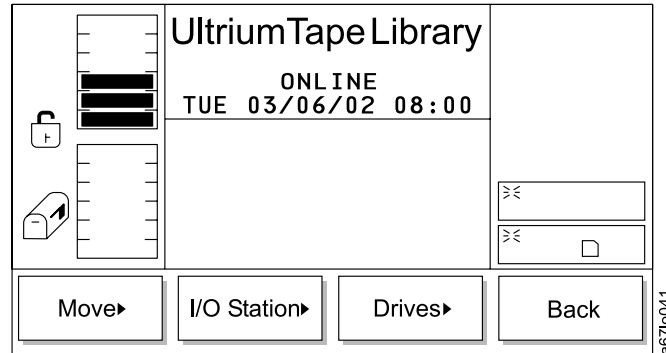

Figure 107. Command Menu
Use the Command Menu to initiate motion commands. Select **Command** from the Main Menu by pressing the button below the **Command** softkey (see Figure 76 on page 89). The Command Menu displays (see Figure 107).
- If **Back** is selected, the Command Menu displays (see Figure 107 on page 105).